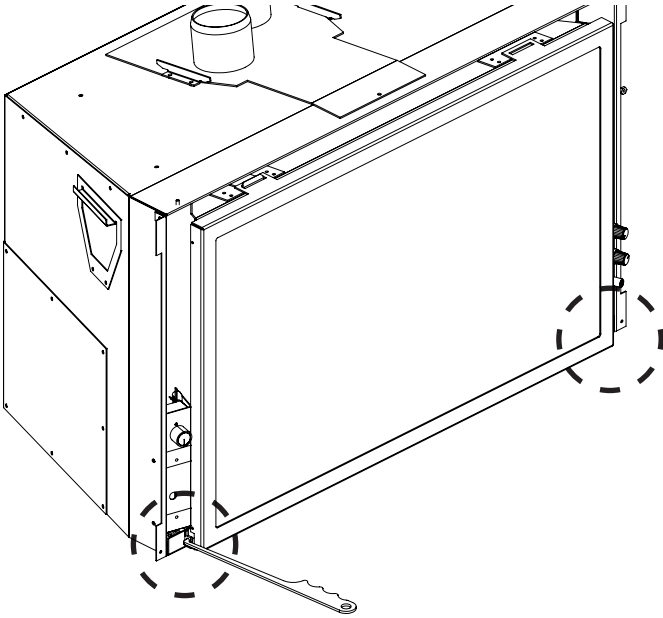
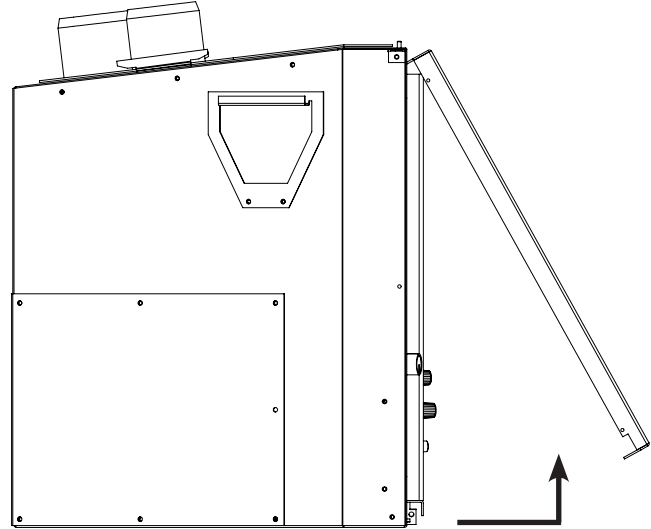

Figure 8: Door Release.
Figure 9: Door Removal.
Remove the glass door by placing the hooked end of the door release tool in the hole on the door latch mechanism (see Figure 8) and pulling the latch out then up. When the two (2) latches have been released, tilt the bottom of the door forward and then lift up to unhook the top door tabs (see Figure 9).